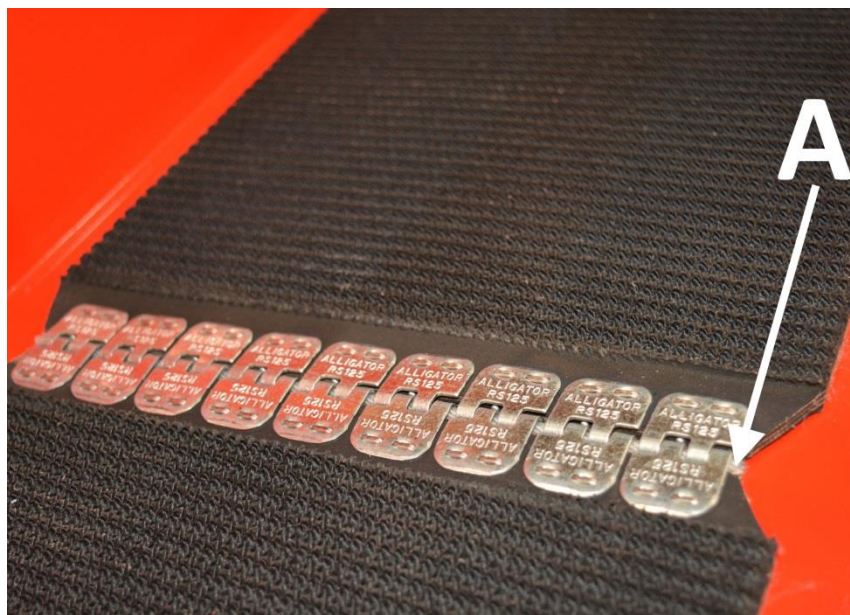

Figure 38.
4. Disconnect the joint by using pliers, for example, to pull out pin A (Figure 38), which holds the joint together.
6. Slide the new belt under the table from the side of the in-feed conveyor's drive roller until you can pull the belt out from the other end (C).